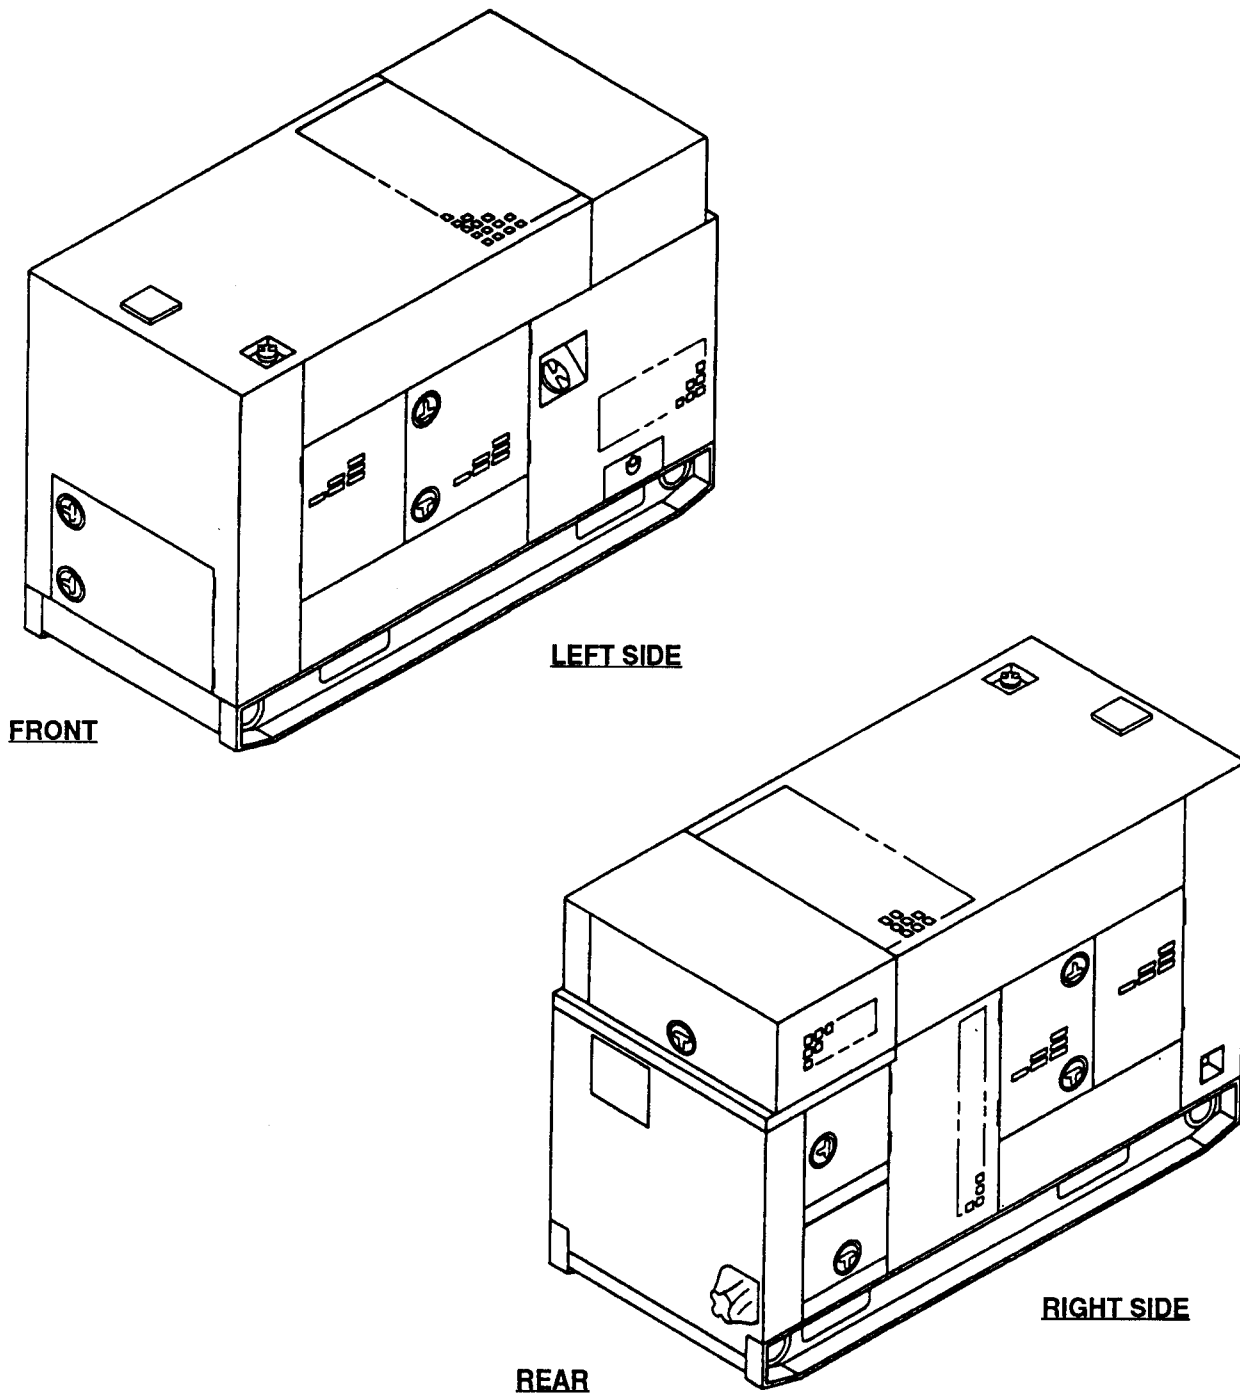

FIGURE 1-1. Generator Set, 60 kW, Tactical Quiet
This manual contains Unit, Direct Support and General Support maintenance instructions for the Tactical Quiet (TQ), 60 kW 50/60 and 400 Hz Generator Sets (FIGURE 1-1), herein referred to as generator sets. Included are descriptions of major components and their functions in relation to other components.
The generator sets, models MEP-806A and MEP-816A, (FIGURE 1-1) are fully enclosed, self-contained, skid-mounted, portable units. They are equipped with controls, instruments, and accessories necessary for operation as single units or in parallel with another unit of the same class and mode. The generator sets consist of a diesel engine, brushless generator; excitation system, speed governing system, fuel system, 24 VDC starting system, control system, and fault system.